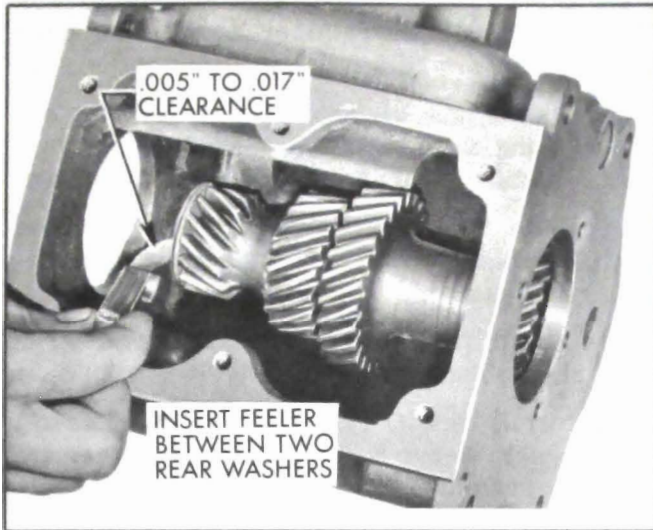

Figure 4-27—Checking End Clearance of Counter Gear
5. Check end clearance of counter gear using feeler gauge between two rear thrust washers. Limits are .005" - .017". Replace thrust washers if clearance is found to be excessive. See Figure 4-27.